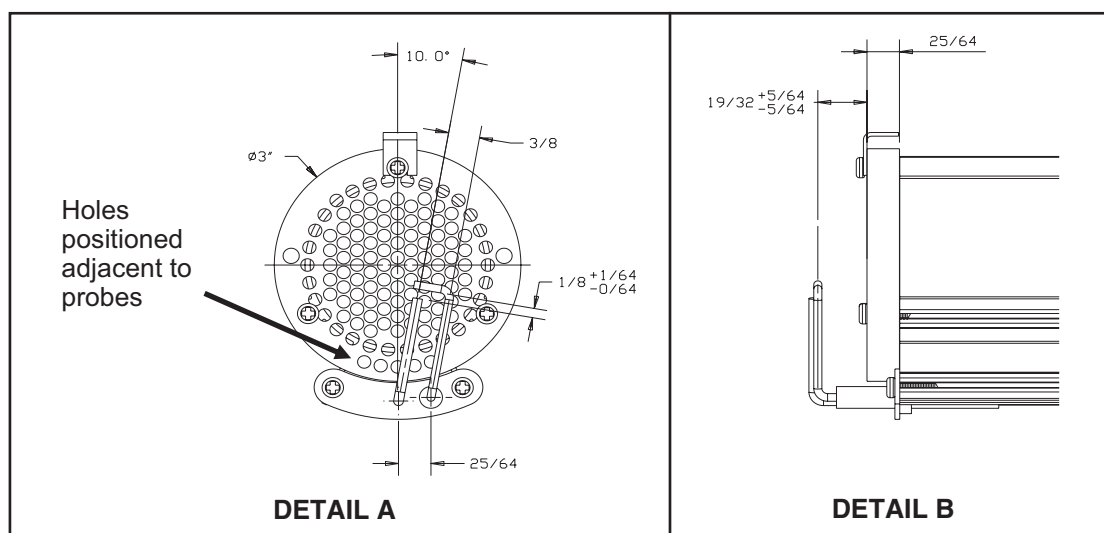

Figure 26. Flame Plate and Ignitor Spark Gap
7. Check flame plate and inside burner head for contamination and clean as necessary. Replace flame plate as necessary ensuring that five holes on outer ring are aligned properly (see **Figure 26**, DETAIL A).
9. Check igniter assembly for deterioration. Replacement at each service is advised to ensure continued reliability. Ensure that lead connectors are secure to prevent incorrect sparking of electrode and ensure that spark gap is in accordance with **Figure 26** , DETAIL B).